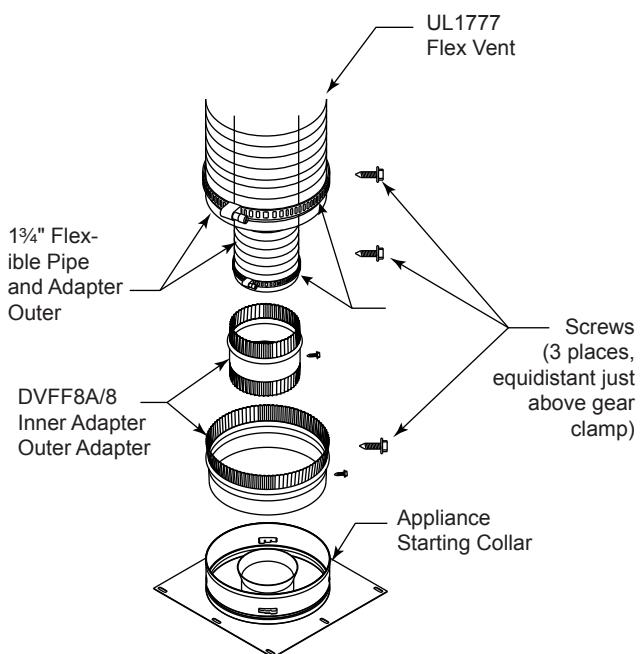

Figure 41 -
2. The flex adapter starter kit (DVFF8A/8) is used to attach flex venting to the appliance starting collar. It includes 5" inner and 8" outer adapter rings. *Figure 41*
- A. Installing the inner flex adapter and pipe. *Figure 41*
B. Installing the outer flex pipe. *Figure 41*